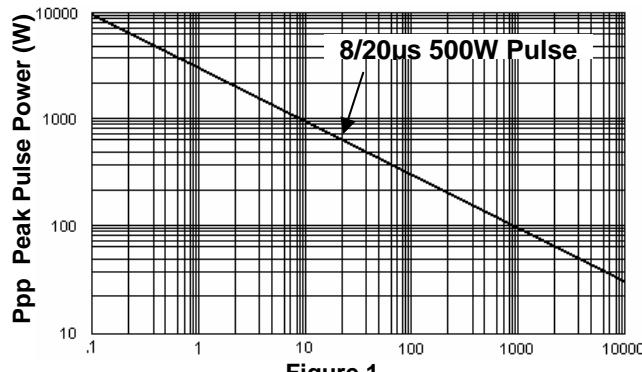

Figure 1
- Peak Pulse Power: 500 watts (8/20  $\mu$ s, Figure 1)